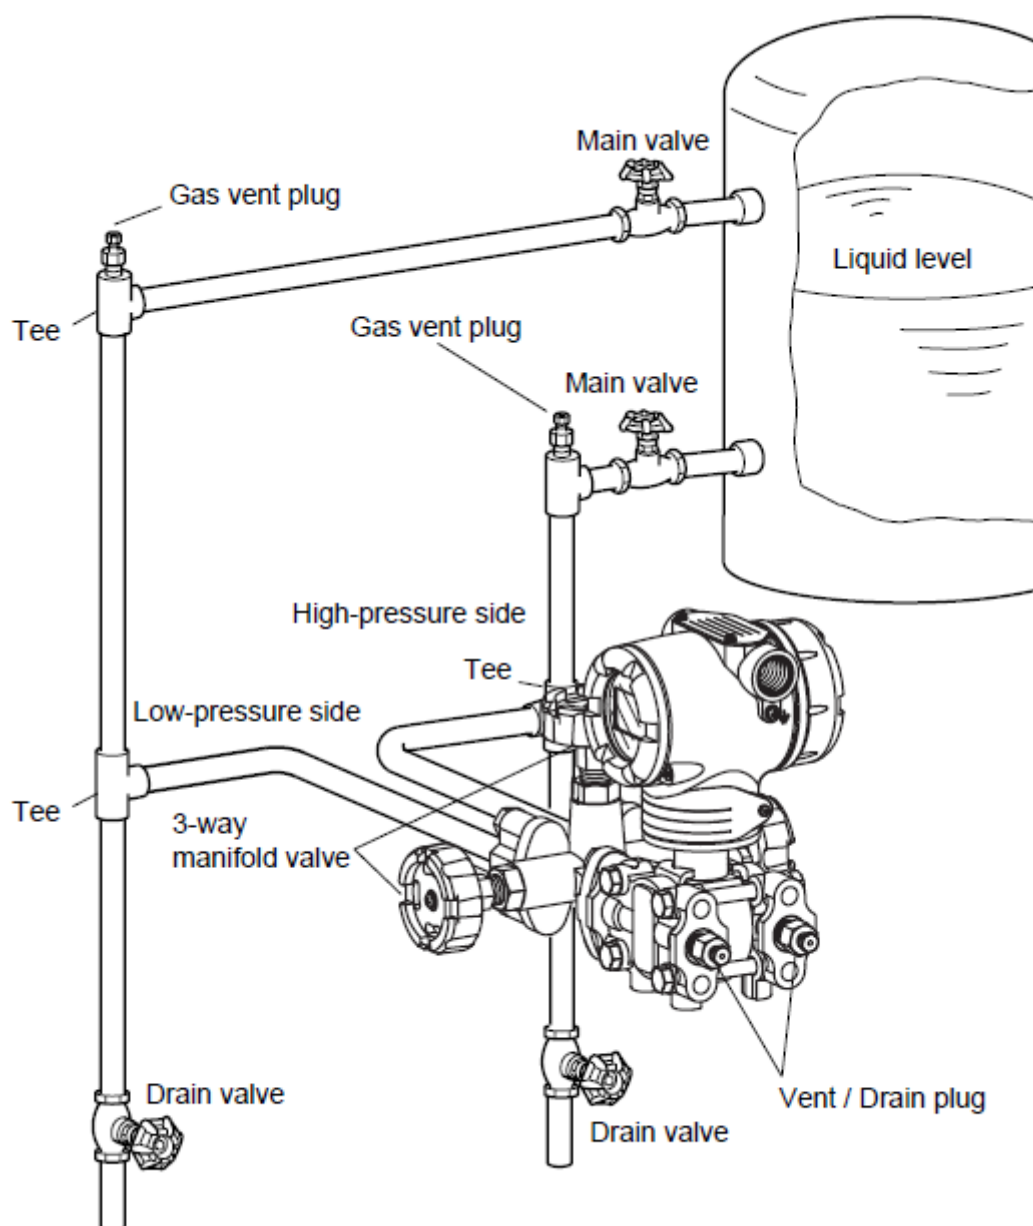

Figure 10. Typical Closed Tank (Dry Leg) Piping Installation
- ◆ After completing piping work, check for pressure leaks around the connecting pipe, the transmitter, and the 3-way manifold valve. Figure 10 shows a typical installation.